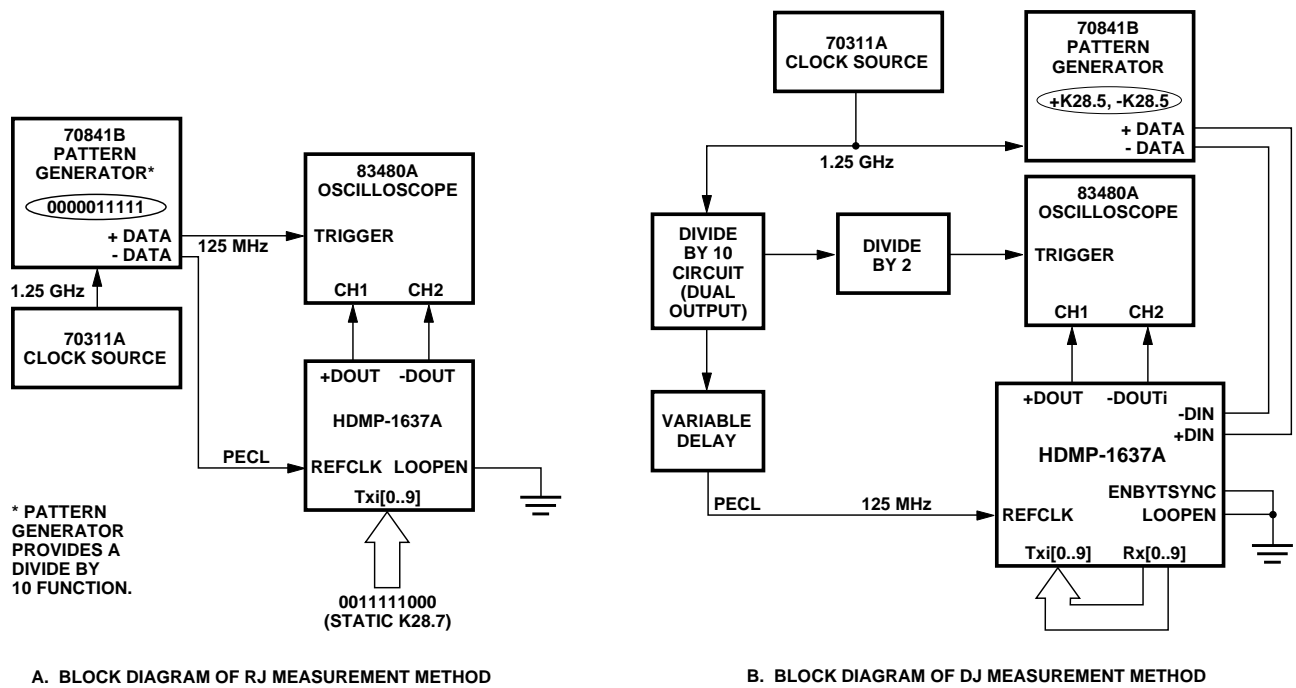

Figure 8. Transmitter Jitter Measurement Method.
**Note:** 1. Defined by Fibre Channel Specification X3.230-1994 FC-PH Standard, Annex A, Section A.4 and tested using measurement method shown in Figure 8.